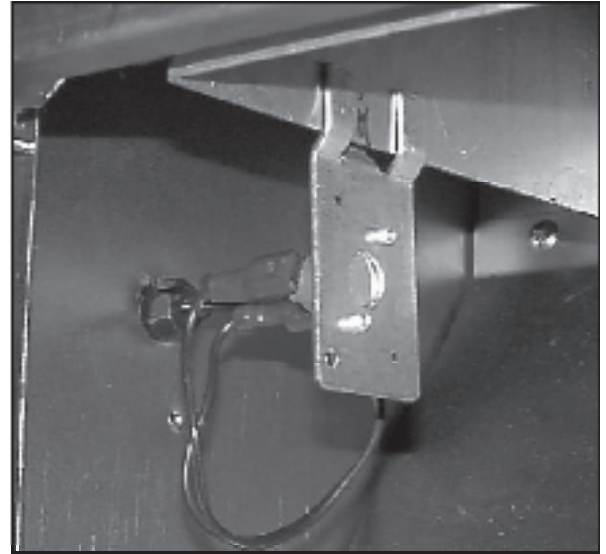

Figure 2: Blocked Vent Switch
- 4) The AWI, AWR, TWI, CWI, BSI, Series 16 and some Series 32 Boilers are equipped with a blocked vent shut-off switch (Figure 2). This switch will shut the boiler down in the event that there is an excessive blockage in the vent system. This switch has a reset button, which must be pressed before the boiler can be restarted.